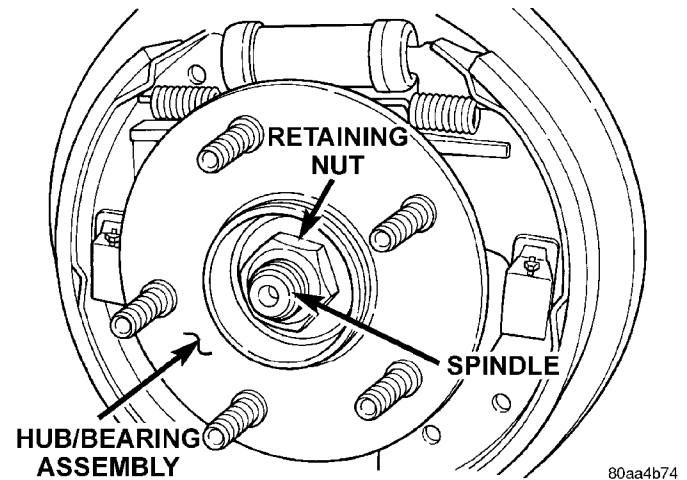

Fig. 144 Hub/Bearing Retaining Nut
(16) Remove the retaining nut (Fig. 144) for the hub/bearing from the spindle.